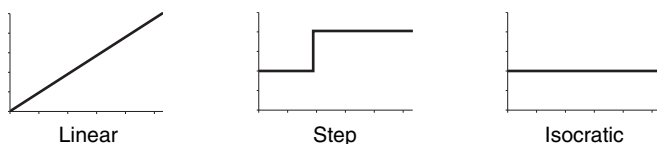

Figure 3-8 Gradient types
**Gradient Method** – Select the standard gradient type (Figure 3-8).